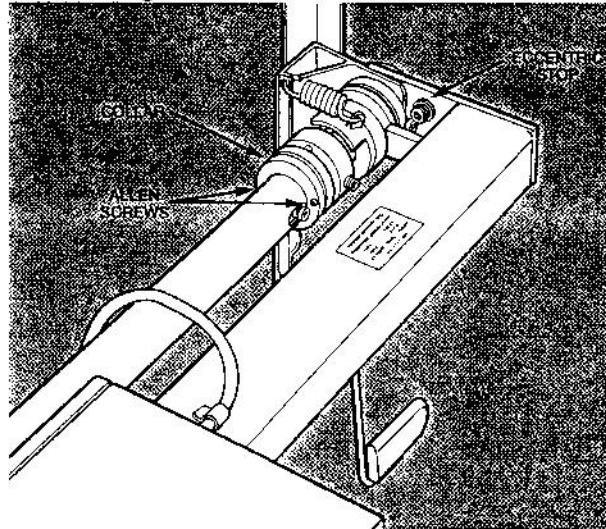

Figure 2-7: Adjusting the tilt (detail)
5. Prevent a full vertical position (recommended with the larger tablets) by adjusting the eccentric stop on the tablet base. See Figure 2-7. Adjust the eccentric stop by loosening the cap screw from the other side of the bracket support. Rotate the stop and retighten the cap screw. The widest part of the stop should be toward the protruding nut on the pivot.